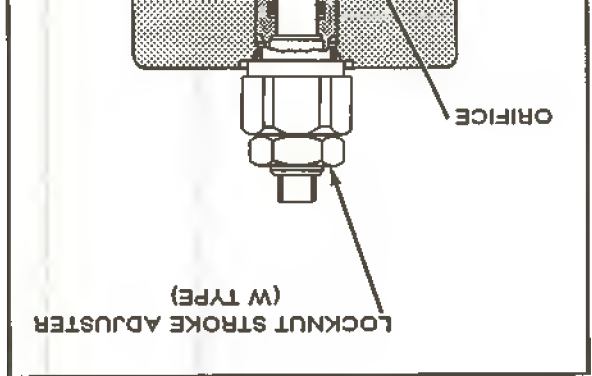

Figure 4. Directional Cover with Stroke Adjuster (A Function)
Three types of adjustments are available - lock-nut (W), the micrometer (M), and micrometer locknut adjustment (K). Refer to Figure 4 for the basic locknut adjustment (W) arrangement. The micrometer adjuster provides precise control with the capability of returning to a previous pressure setting when desired. The three adjuster types are described in more detail in Section VII.